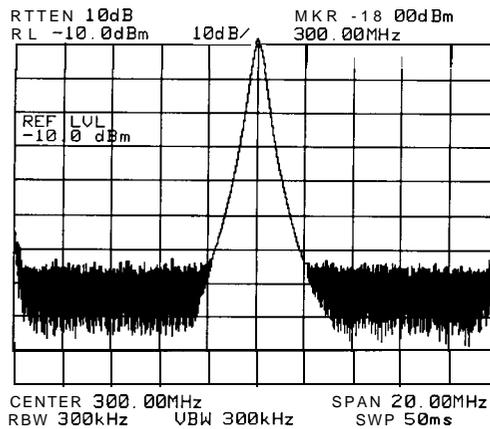

Figure 1-8. -10 **dBm** Reference Level
- a. Generally, placing the signal peak at the reference level provides the best measurement accuracy. To adjust the signal peak to the reference level (Figure 1-8), press [AMPLITUDE]. Then key in **-10 dBm**, or use either the step keys or the knob.